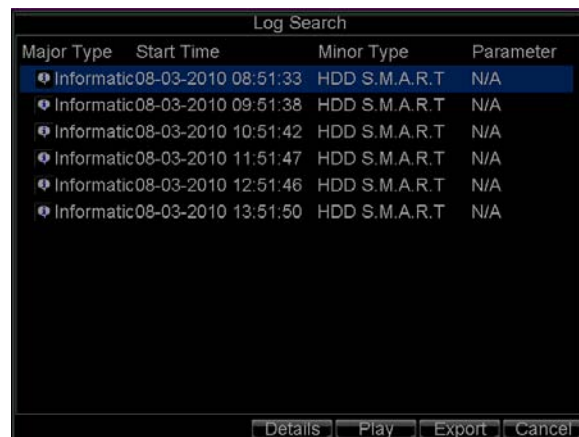

Figure 5. Log Search Results
7. Click the *Search* button to begin log search. A list of results, similar to that of Figure 5, will be returned.